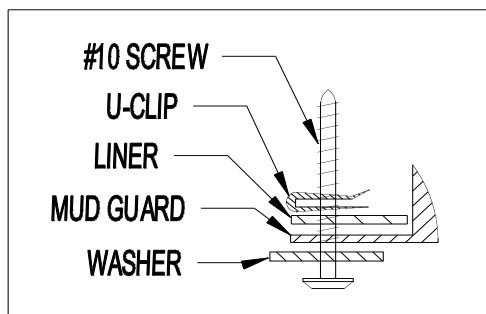

Figure 3
5. Using mud guard as a template, mark, drill 1/8 hole and install #10 screw and washer at location A, thru mud guard, fender cladding and into a u-clip on the backside of liner. The u-clip is used as a nut, DO NOT clip over liner or sheet metal (Figure 3).